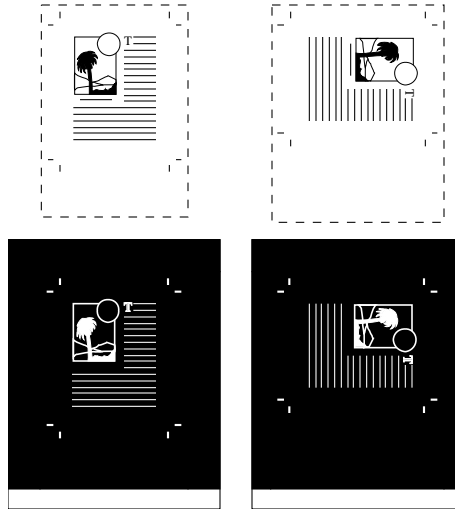

Figure C.3. Specify a larger page size in your page layout application to increase the exposed area around the page.
- If you need more exposed plate material, specify a larger page size through your front end application. See Figure C.3.